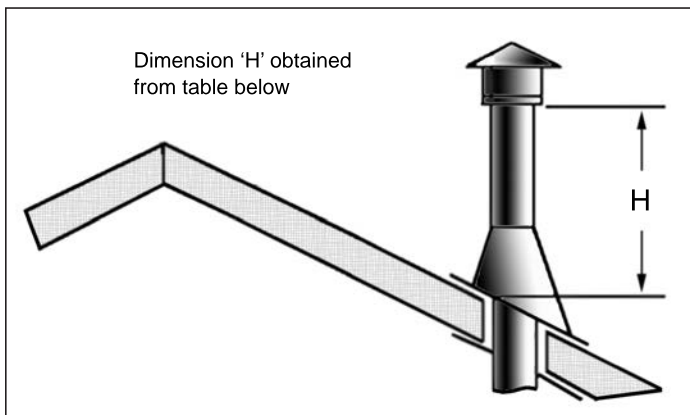

Figure 60: Height of Vertical Termination; Reference Table 8.
- STEP 8.** Continue to add pipe sections until the height of the vent cap meets the minimum code requirements. Refer to Figure 60 and Table 8. Note that for steep roof pitches, the vent height must be increased. In high wind conditions, nearby trees, adjoining roof lines, steep pitched roofs, and other similar factors can result in poor draft, or down drafting. In these cases, increasing the vent height may solve the problem.
All electrical connections for the S50 are done internally and come pre-wired directly from the factory. Connect the supplied IEC power cord into the receptacle at the back of the unit (see Figure 60) and into a wall outlet.